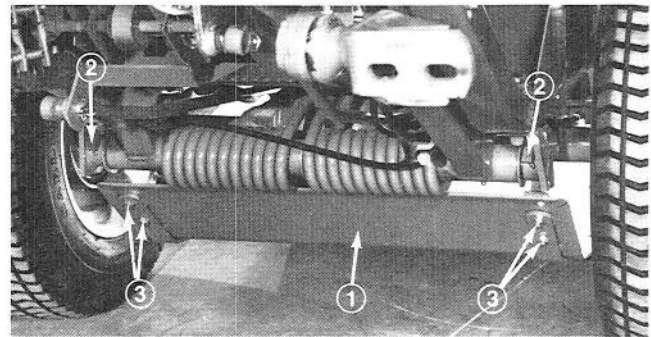

Figure 6
5. Secure Belly Shield to Belly Shield hooks with two 5/16 in. locknuts on each side (Fig. 6).